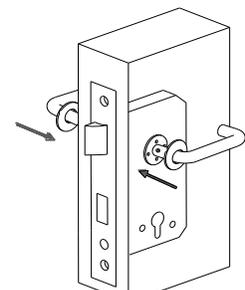

Fig 7
- 5) Affix outer rose cover of lever handle as shown in Fig 7.